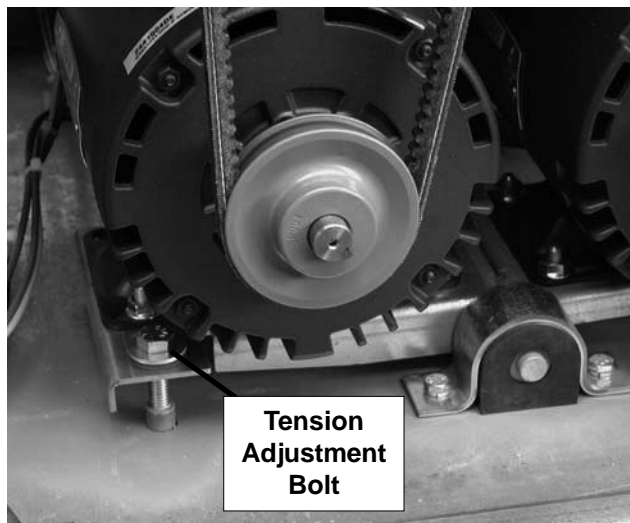

Figure 6-5 Removing Drive Motor
5. Loosen the belt tension adjustment bolt and remove the belt. (Refer to Figure 6-5)